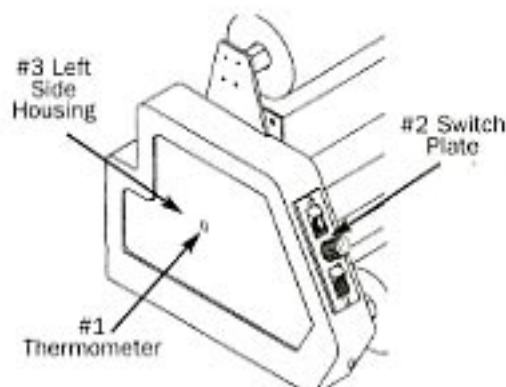

Figure 17-3
2. Remove the thermometer, see #1, figure 17-3.